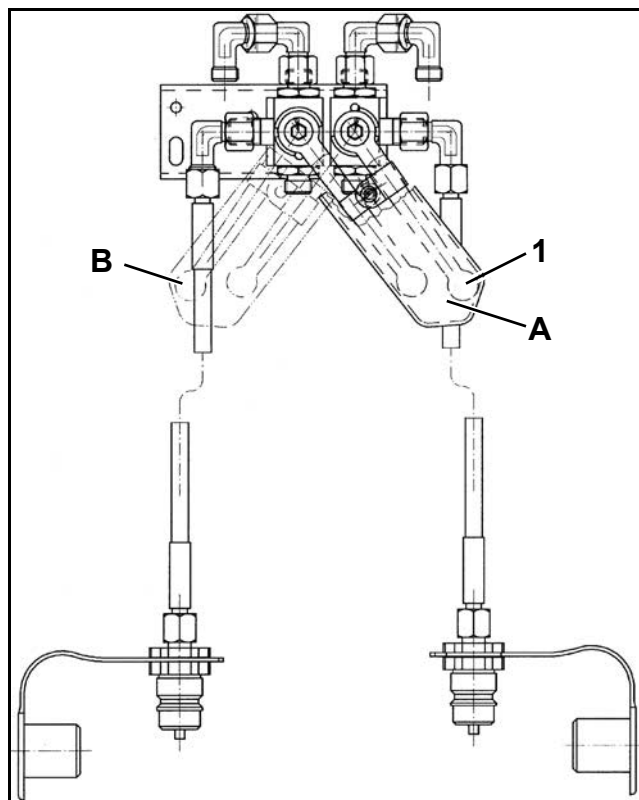

Fig. 53
- By actuating the control valve on the tractor swivel the control lever (Fig. 53/1) in to Position "A" and fold out the right hand boom section.
- Move control lever (Fig. 53/1) into position "B". Fold in the left hand side boom by actuating the control valve on the tractor.
- Move control lever (Fig. 53/1) into position "A". Fold in the right hand side boom by actuating the control valve on the tractor.